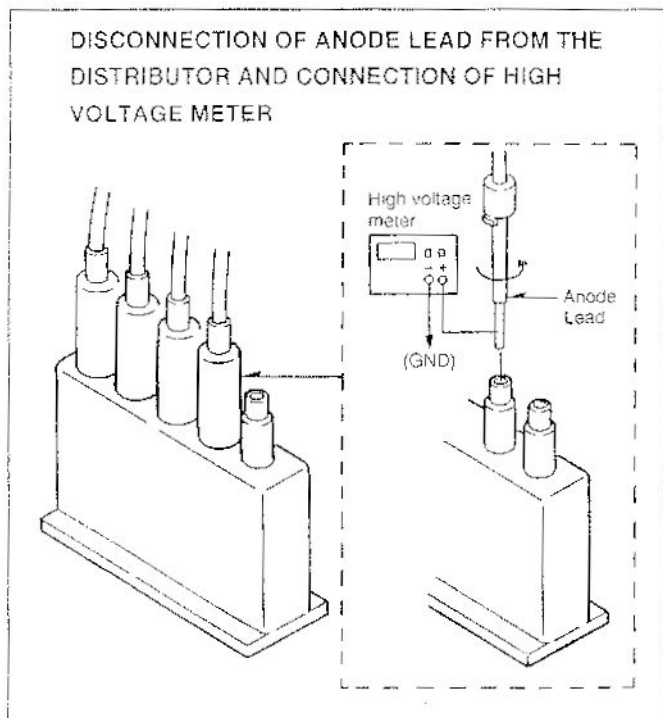

Fig. 3
2. Connect the high voltage meter to anode lead of the distributor as shown in Fig. 3.